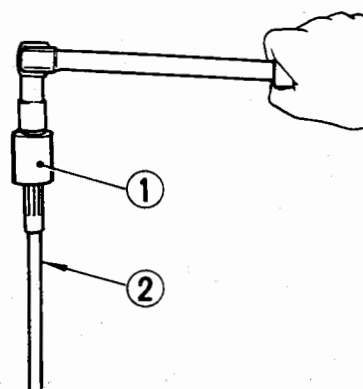

Fig. 69 Removing the bevel gear B
- 1) Insert the socket bevel gear B nut (special tool) into the spline portion on the engine side of the drive shaft and apply the wrench bevel gear B nut (special tool) to the bevel gear B nut inside the gear case. (Figs. 69, 70)